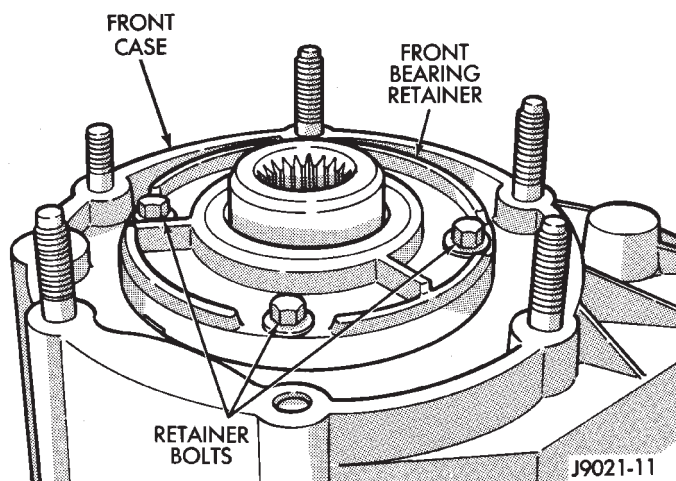

Fig. 22 Front Bearing Retainer Bolt Locations
(34) Turn front case over and remove front bearing retainer bolts (Fig. 22).